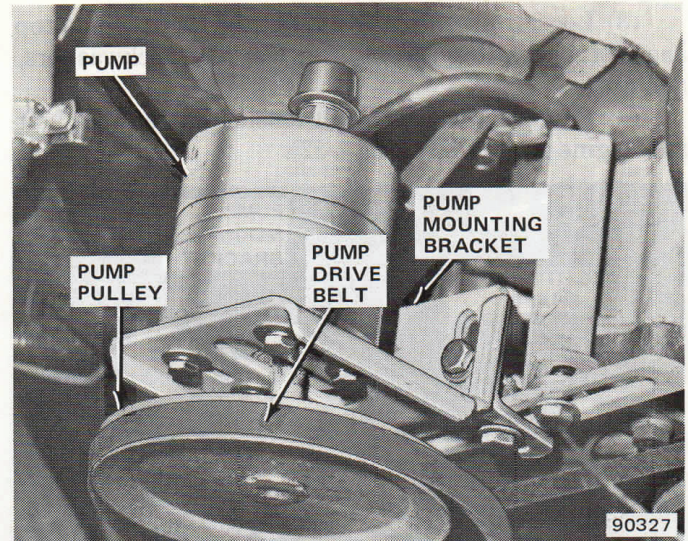

Fig. 1-30 Pump Installation
(12) Attach pump to pump mounting bracket with screws, lockwashers and flat washers (fig. 1-30). Do not tighten screws.
(13) Adjust pump rear brace bar as required for proper alignment and attach to pump with screw, lockwasher, and flat washer. Tighten ground cable mounting bolt. Tighten all bolts (except ground cable bolt) and screws on bracket installation.
(14) Install pump pulley on pump shaft, align with drive pulley on alternator using straightedge, and tighten pump pulley setscrews.
(15) Install pump drive belt. Move pump up on pump mounting bracket to tighten belt, and tighten screws holding pump on mounting bracket.
(5) Position assembled L-shaped sections over alternator belt tension adjustment point and engine ground point. Secure L-shaped section in position using appropriate bolts.
(6) Adjust alternator belt tension and tighten all bolts used in L-shaped and U-shaped slotted bar installation.
(7) Attach flat slotted bar to U-shaped slotted bar using screw, flat washers, lockwasher, and nut. Do not tighten.
(8) Attach pump mounting bracket to flat slotted bar using two screws, four flat washers, two lockwashers, and two nuts. The screw nearest center of engine compartment should go through pump mounting bracket, flat slotted bar, and L-shaped slotted bar section attached to alternator. Tighten all screws.
(9) Loosely assemble short offset bar and top angle bracket on L-shaped slotted bar.
(10) Attach pump to pump mounting bracket (fig. 1-30). Do not tighten screws.
(11) Adjust short offset bar and top angle bracket and attach to pump. Do not tighten screws.
(12) Install pump pulley on pump shaft, align with drive pulley on alternator using straightedge, and tighten pump pulley setscrews.
(13) Install pump drive belt.
(14) Move pump up on pump mounting bracket to tighten drive belt. Tighten all bolts and screws.